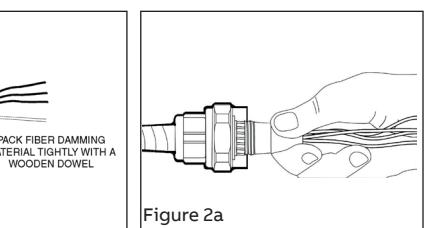

Figure 1a
- Pack the fiber damming material tightly into all voids between conductors and body subassembly until it completely seats on the body (Figure 1a).